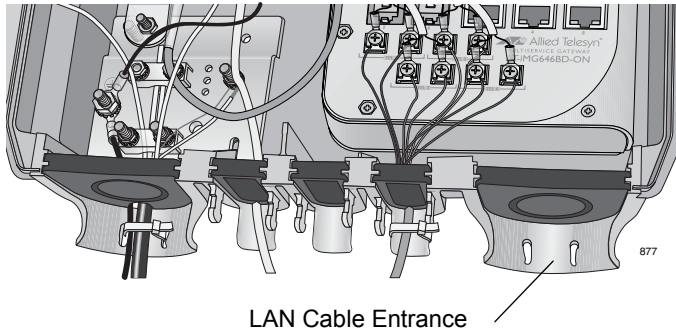

Figure 42. LAN Cable Entrance
1. Remove the grommet from the LAN cable entrance, as shown in Figure 42.